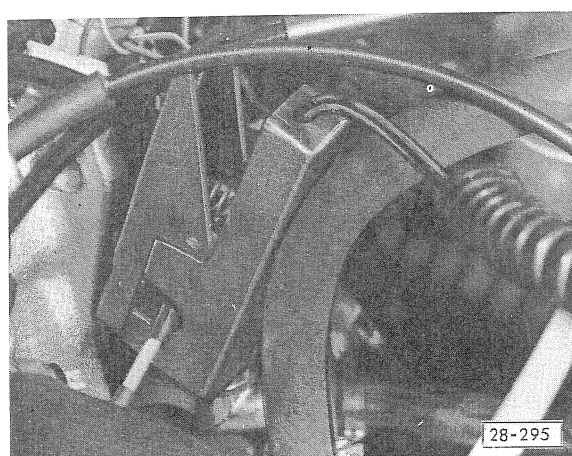

Fig. 3 Placing glow plug supply wire in current clamp
- Place glow plug lead in current clamp (Fig. 3)